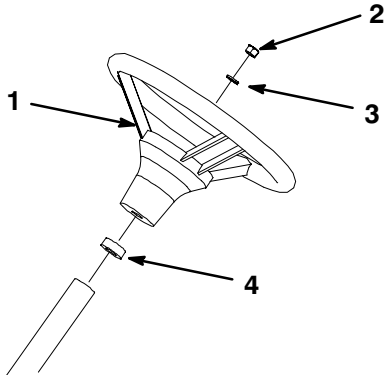

Figure 4
3. Secure steering wheel to shaft with hex nut (Fig. 4).